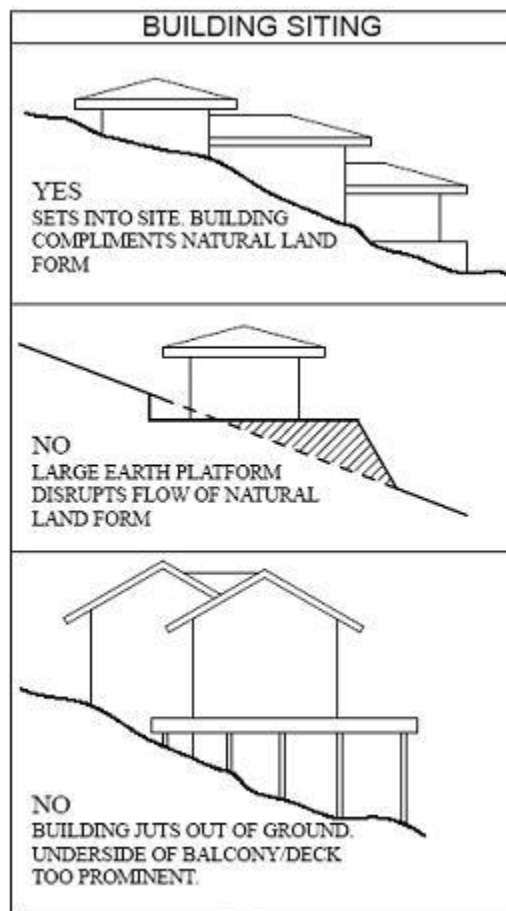

Fig. 3.1-1
vertical building elevations of more than two (2) stories be allowed. Building elevations greater than two (2) stories in height must be broken by horizontal setbacks (Refer to Section 3.1, Fig 3.1-1). Designs, which result in excessive vertical massing, will not be approved. The DRC reserves the right to require a lower building height if, in the opinion of the DRC, the proposed structure would be detrimental to the design integrity of the community.